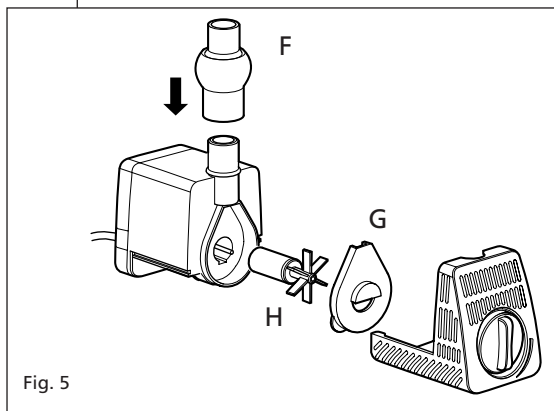

Fig. 5
- The ball joint - See Fig 5 (F), fits onto the pump outlet and the telescopic stem pushes onto the top. This can then be used to adjust the fountain angle so that it is vertical.
- Release the Chamber Front Plate, by unsnapping it from the Motor Body. See Fig 5 (G).
- Body. See Fig 5 (H).